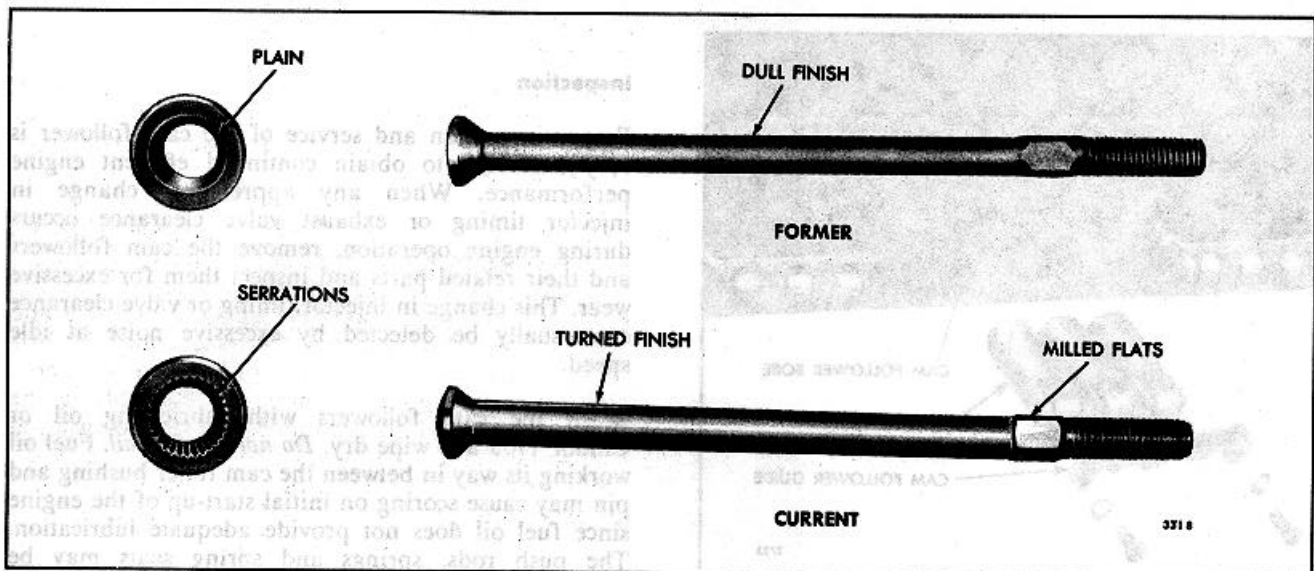

Fig. 6. Comparison of Push Rods and Lower Spring Seats
Inspect the push rods and spring seats for wear. The current push rods have milled wrench flats and a bright "turned" finish and the lower spring seats are serrated along the push rod contact surfaces (Fig. 6).
NOTE: When replacing a push rod or lower spring seat, do not use a plain spring seat (Fig. 6) with a current type push rod. Any other combination of spring seat and push rod may be used.
2. Assemble the *serrated* lower spring seat (Fig. 6), spring and upper spring seat on the push rod.
1. Assemble the *serrated* lower spring seat (Fig. 6), spring, upper spring seat and locknut on the push rod.